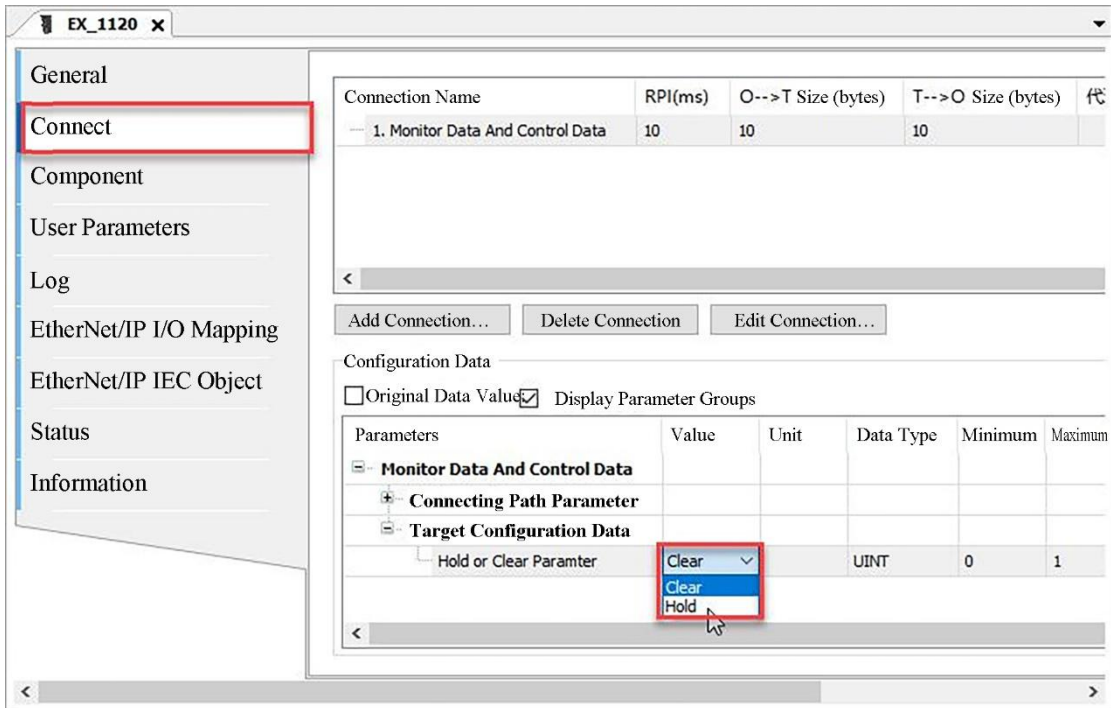

Figure 6-1-3 CODESYS programming software configuration output retention
- EX-1120 output I/O hold is configured in CODESYS programming software, as shown in Figure 6-1-3.